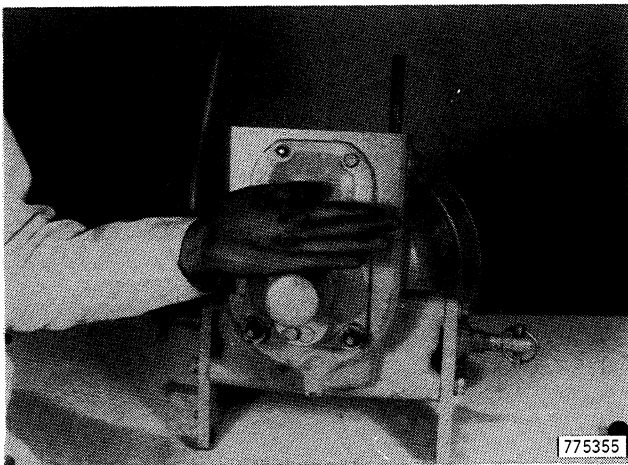

Figure 92
42. Install nut and new sealing washer, Figure 92.